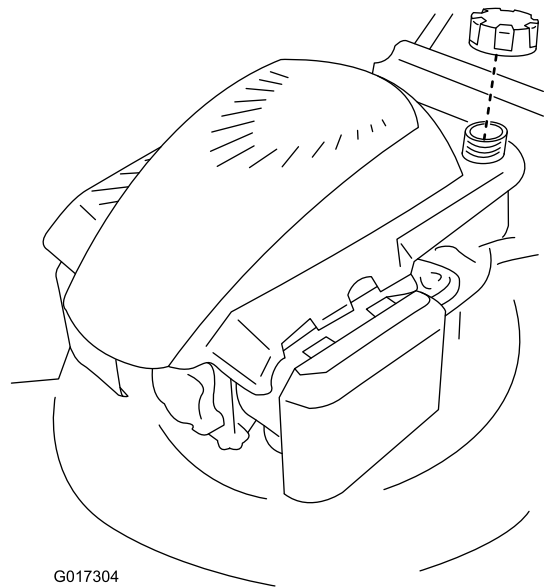
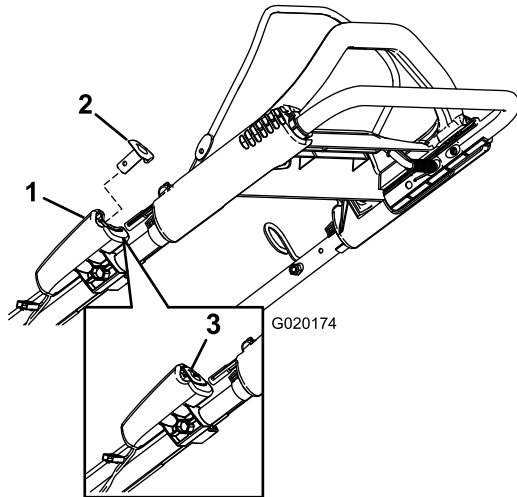

Figure 13
Figure 18
Fill the fuel tank with fresh unleaded regular gasoline from a major name-brand service station (Figure 13).
2. Push the electric-start button (Figure 18) (electric-start model only) or pull the recoil start handle (Figure 13).
Note: If the electric-start button if it has been removed, insert it in the electric starter; refer to Figure 18(electric-start model only).